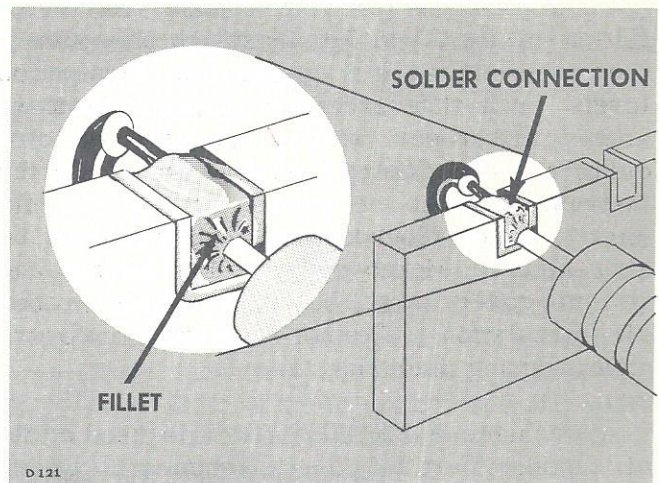

Fig. 4-3. A slight fillet of solder is formed around the wire when heat is applied correctly.
6. Do not attempt to fill the notch on the strip with solder; instead, apply only enough solder to cover the wires adequately, and to form a slight fillet on the wire as shown in Figure 4-3.